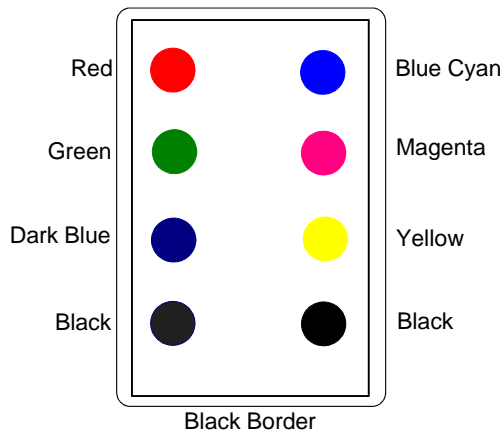

Figure 5-2: ImageCard printer test card (using color ribbon)
- 5 Remove the card from the card output stacker. A printer test card is shown in Figure 5-2.